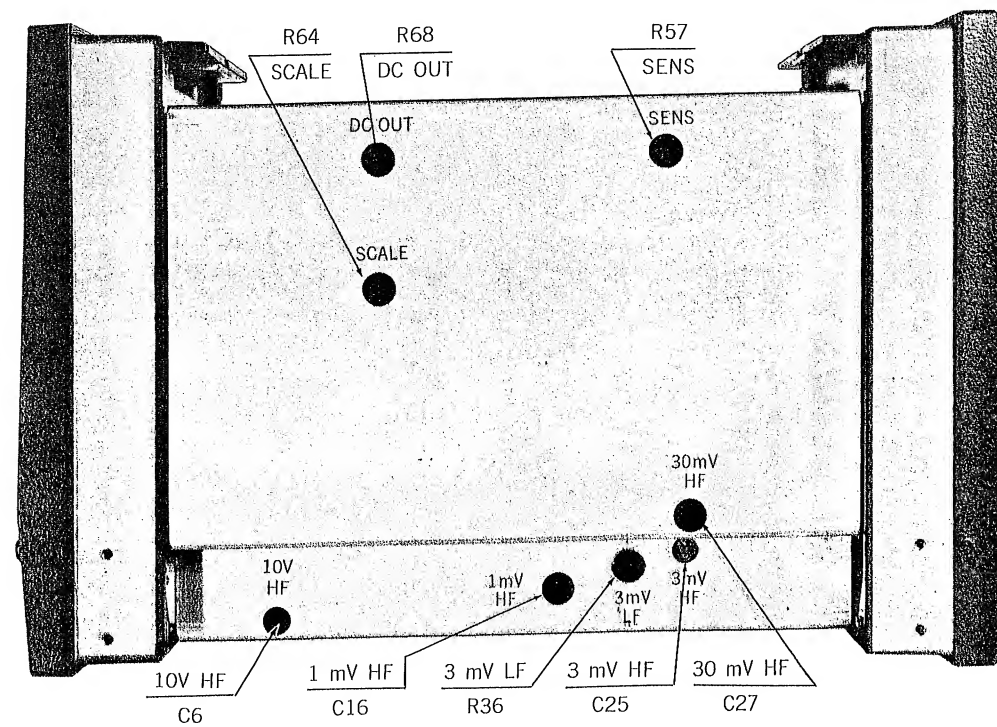

Fig. 13. Instrument Adjustments, Side View
- B. Reduce the signal level by the precise factor of 0.3162 (10 dB) and note the indication on the scale. If the meter does not indicate 3.162 (1 on the lower scale) adjust the SCALE adjustment (see Fig. 13) for this indication.
- If the deviations on the 3 mV, 10 mV, or 30 mV ranges exceed  $\pm 0.25\%$ , reduce these by adjusting the 3 mV LF adjustments (see Fig. 13) for better agreement with the 1 mV range.
- Adjust the SENS control (see Fig. 13) so that the maximum positive and maximum negative errors obtained in step B are equal.
- Connect a signal to produce an indication of precisely 10 on the scale, and note the dc output voltage. If this is not  $-1.0$ ,  $\pm 1\%$  V, adjust the DC OUT control (see Fig. 13) for this condition.